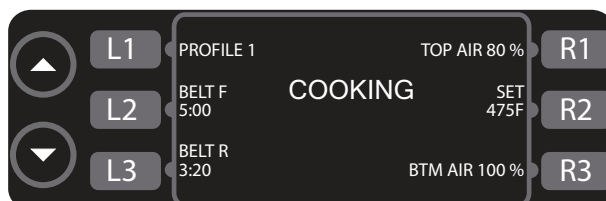
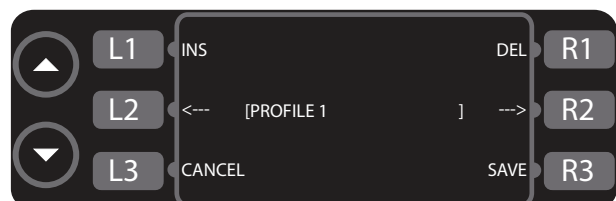

Figure 14: Cooking Screen
Figure 15: Name Change Screen
When the rigid option is enabled for a given setting, the soft key adjacent to that setting (Figure 14) is disabled and no menu editing is allowed.
- From the cooking screen (Figure 14), touch L1 to access the name change screen (Figure 15).
1. From Figure 14, touch the soft key adjacent to the conveyor belt you wish to adjust (touch L2 for the front belt [Belt F] or L3 for the rear belt [Belt R]).
1. Touch R2 (Figure 14, page 13) to access the temperature controls.
1. Touch R1 (Figure 14, page 13) to access the top air controls, or R3 to access the bottom air controls.